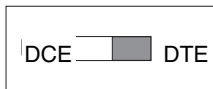

Figure 3. SW1 DTE/DCE switch
3. If the device connected to the Model 1012B is a PC, terminal or host computer (or is wired like one), set switch SW1 to "DCE" (see Figure 3). This causes the Model 1012B to behave like data communications equipment.